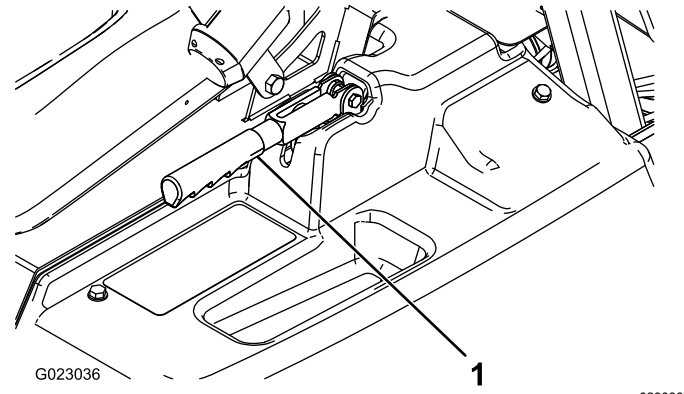

Figure 37
2. Loosen the set screw securing the knob to the parking brake lever (**Figure 37**).